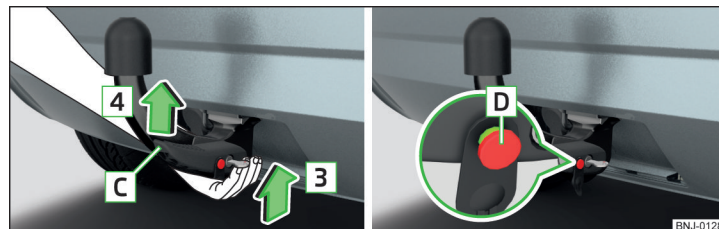

Fig. 247 Insert ball rod / trigger bolt in the extended state
- Grip the tow bar **from underneath** » Fig. 247 and insert into the mounting recess in arrow direction **3** until you hear it click into place » **!**